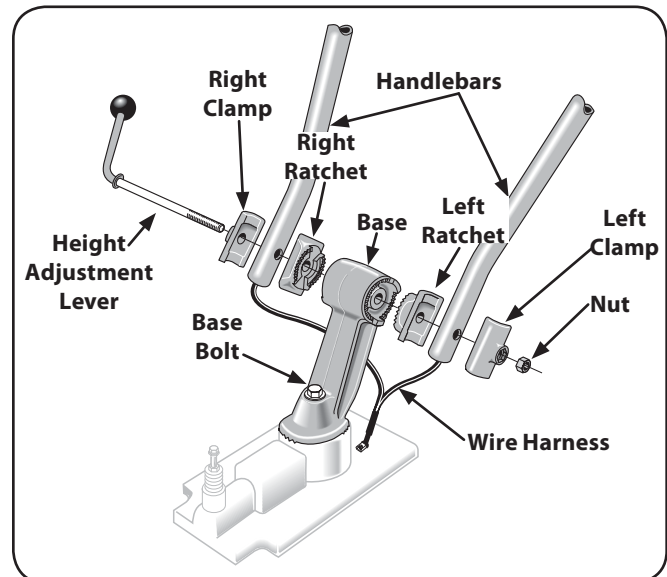

Figure 3-1
1. Disassemble the handlebar assembly. To do this, remove the height adjustment lever by turning the lever in a counterclockwise direction. See Fig. 3-1.
2. Place the handlebar ends on either side of the base, with the wire harness toward the rear of the base See Fig. 3-1.
3. Install the height adjustment lever through the right-side clamp, handlebar end, ratchet, and base; then out through the left-side ratchet, handlebar end, and clamp. See Fig.3-1. Secure with the nut, but do not fully tighten.
1. Loosen the bolt on the handlebar base and swing the handlebars out to the right side. See Fig. 3-1.